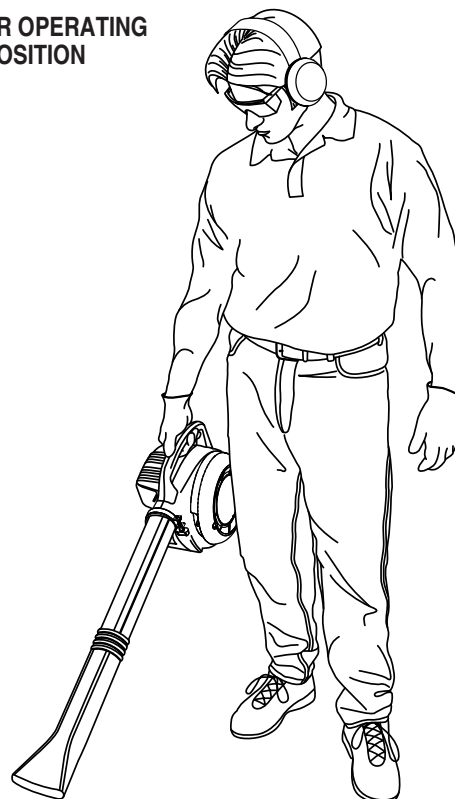

Fig. 5
See Figures 5 - 6.
- Hold the blower with the handle in your right hand. (Proper operating position is shown in figure 5.)